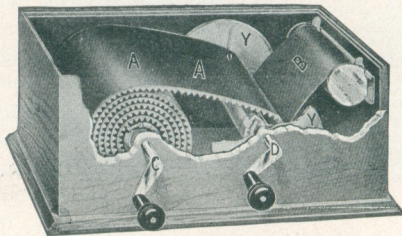

FIG. 1.
5. Insert film cartridge in spool carrier and close up the movable arm tight against end of spool. Have the duplex paper ("B" in Fig. 1) lead from the top.